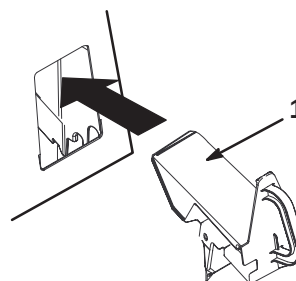

Figure 17
4. Insert the recycler plug into the opening as shown in Figure 17.